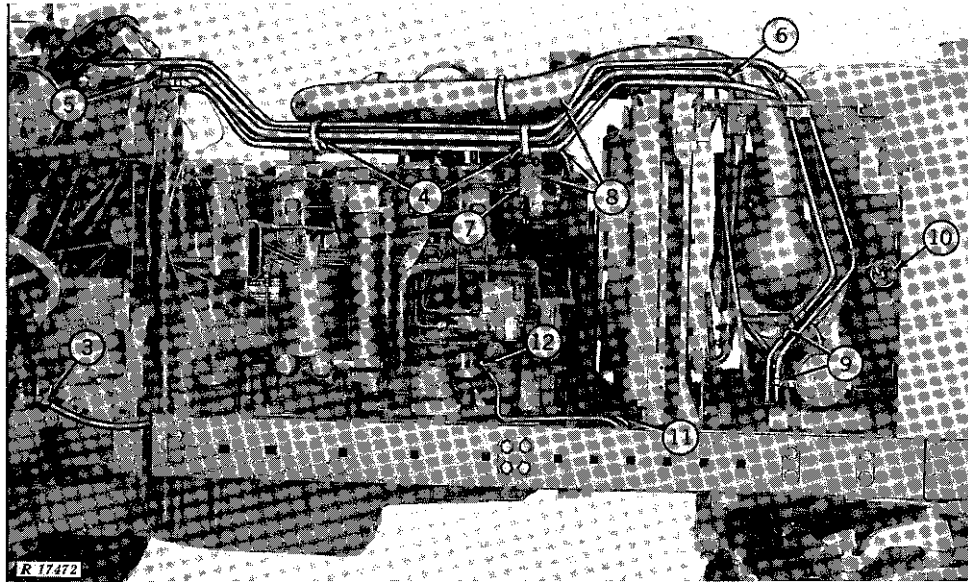

Fig. 17-Right-Hand Side of Tractor
3. Disconnect hydraulic pump oil seal drain tube (Fig. 17).